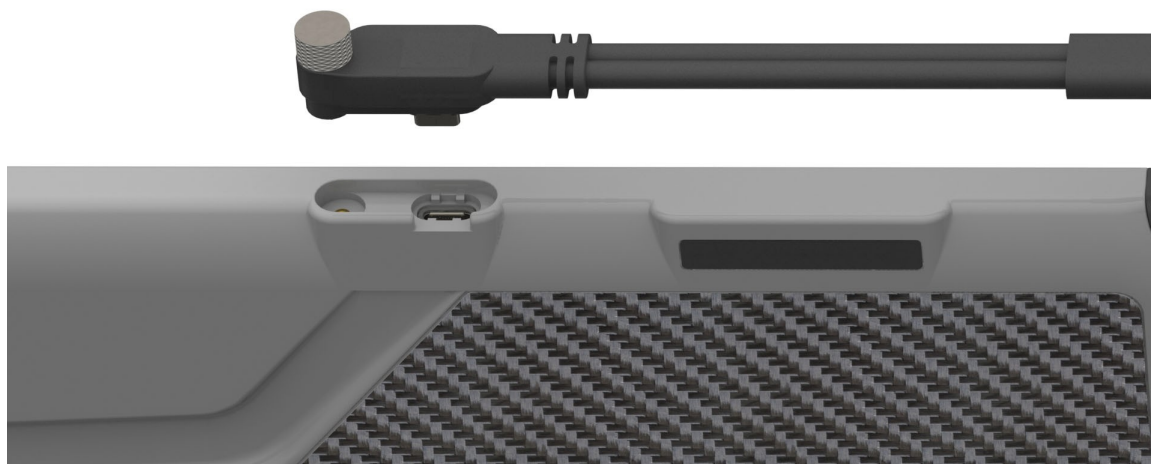

Figure 10 Tether Cable Connection 4336W-G5 and 2530W-G5
- 3 Plug the Tether Cable into the USB slot and tighten the thumb screw into the threaded hole to secure the connection, see Figure 10.